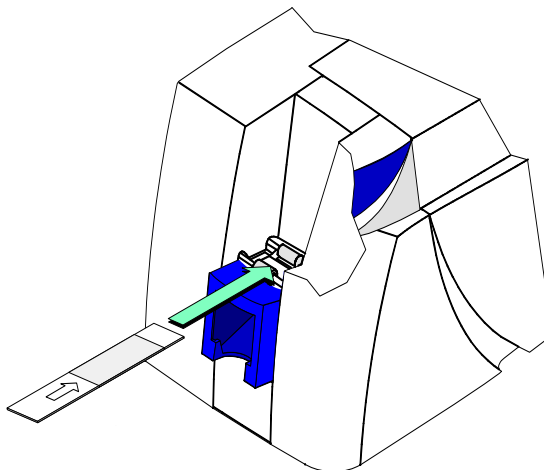

Figure 4-2: Insert the printer cleaning card
- 3 Insert the printer cleaning card on the input rollers, which you can see after removing the card cartridge (see Figure 4-2).